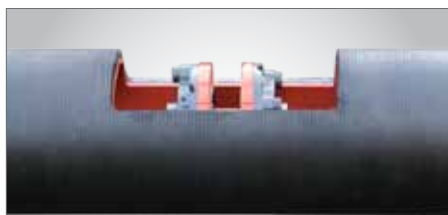

Fig 3.1 Internal Bearings
- ▶ Internal, off-the-shelf, flange mount bearings are clear of material buildup (Fig 3.1)